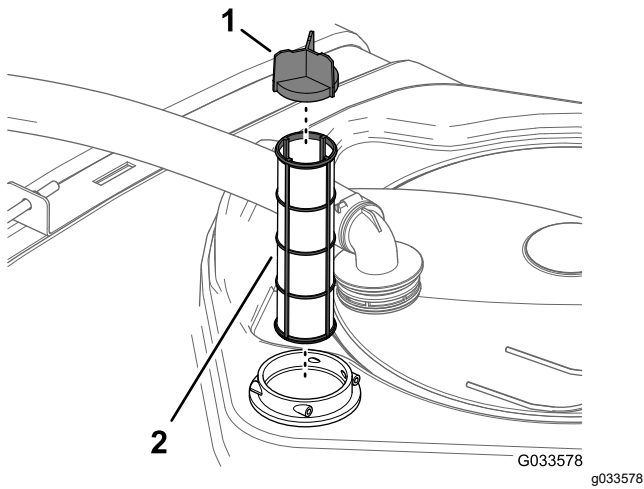

Figure 104
4. Remove the old suction filter from the filter housing in the tank (Figure 104).